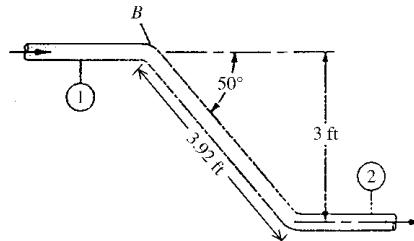

Fig. P3.115
**3.115** Water at 20°C flows at 30 gal/min through the 0.75-in-diameter double pipe bend of Fig. P3.115. The pressures are  $p_1 = 30 \text{ lbf/in}^2$  and  $p_2 = 24 \text{ lbf/in}^2$ . Compute the torque  $T$  at point B necessary to keep the pipe from rotating.